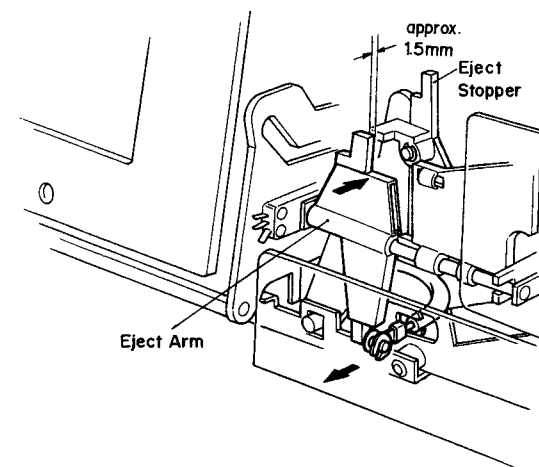

Fig. 5.19.1
- (1) Referring to Fig. 5.19.1, insert a 1.5 mm spacer between the Eject Arm and Eject Stopper by turning the Eject Arm in the illustrated direction, then set the N-582 in playback mode.